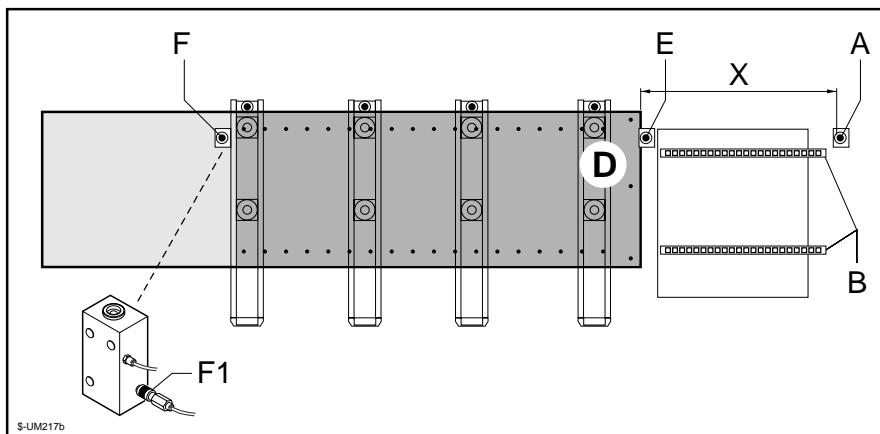

Fig. 4.10
- write down the first program including the types of machining that can be performed on the field "D" (see fig.4.10)
- use the pneumatic cock F1 to disable the stop F (fig.4.10)